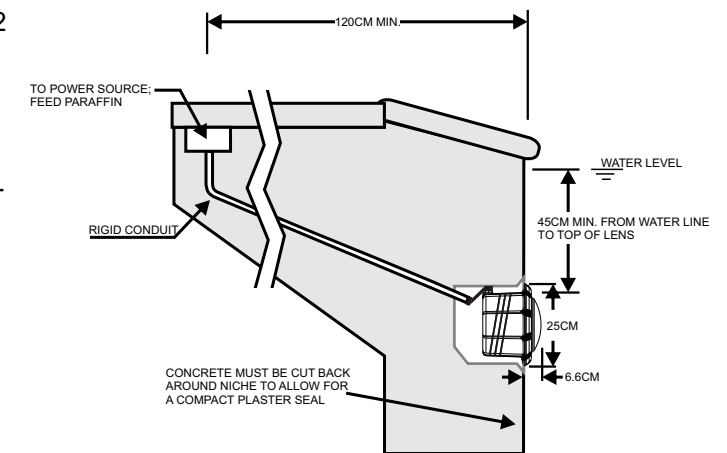

Figure 1.
A. Preparatory steps which must be completed by the electrician before light is installed, see Figure 1.
- The junction box, or the low voltage transformer for 12 volt Underwater Light model is to be located at least 120CM from the edge of the pool, see Figure 1.
- The mounting bracket must be properly installed so that the top edge of the Underwater Light lens is at least 45CM below the surface of the water in the pool, see Figure 1.
1. Locate position on a vertical wall where light is to be installed. The top of the light lens must be 45CM below normal water level, see Figure 1.